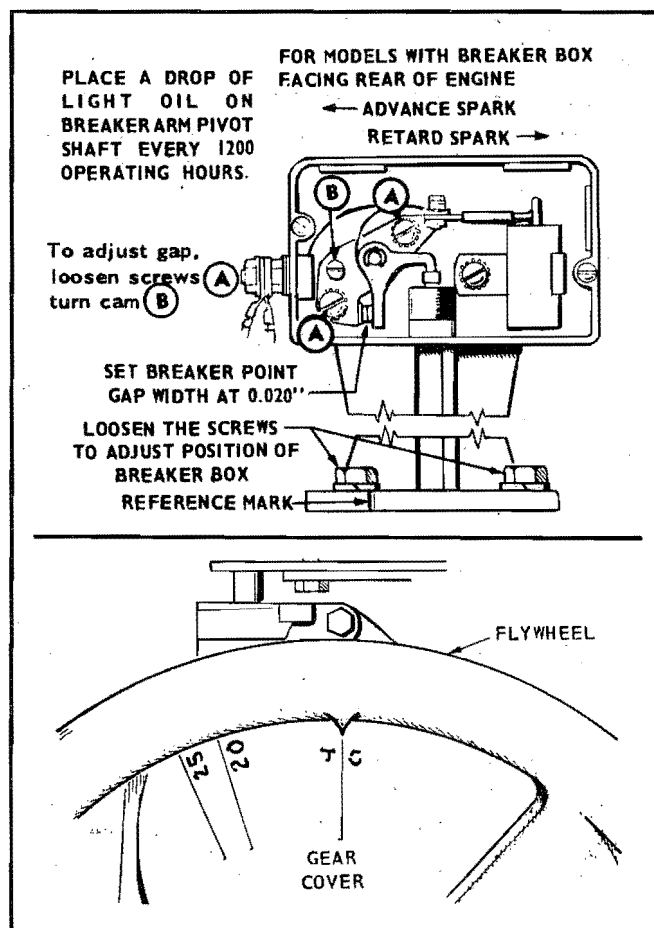

FIGURE 16. IGNITION TIMING
2. Crank the engine over slowly by hand in the direction of crankshaft rotation until the witness mark on the flywheel and the TC mark on the gear cover are exactly in line (see Figure 16).
5. Turn flywheel slowly to the right and note if the ignition points just separate when the mark on the flywheel aligns with the correct degree mark (25°) on the gear cover. If marks align as the points break, timing is correct. If they do not, loosen the breaker box mounting screws and shift the whole breaker box assembly slightly to the right to retard the timing (points breaking too soon), or shift it slightly to the left to advance the timing (points not breaking soon enough). Tighten the breaker box mounting screws securely after making an adjustment (see Figure 16).